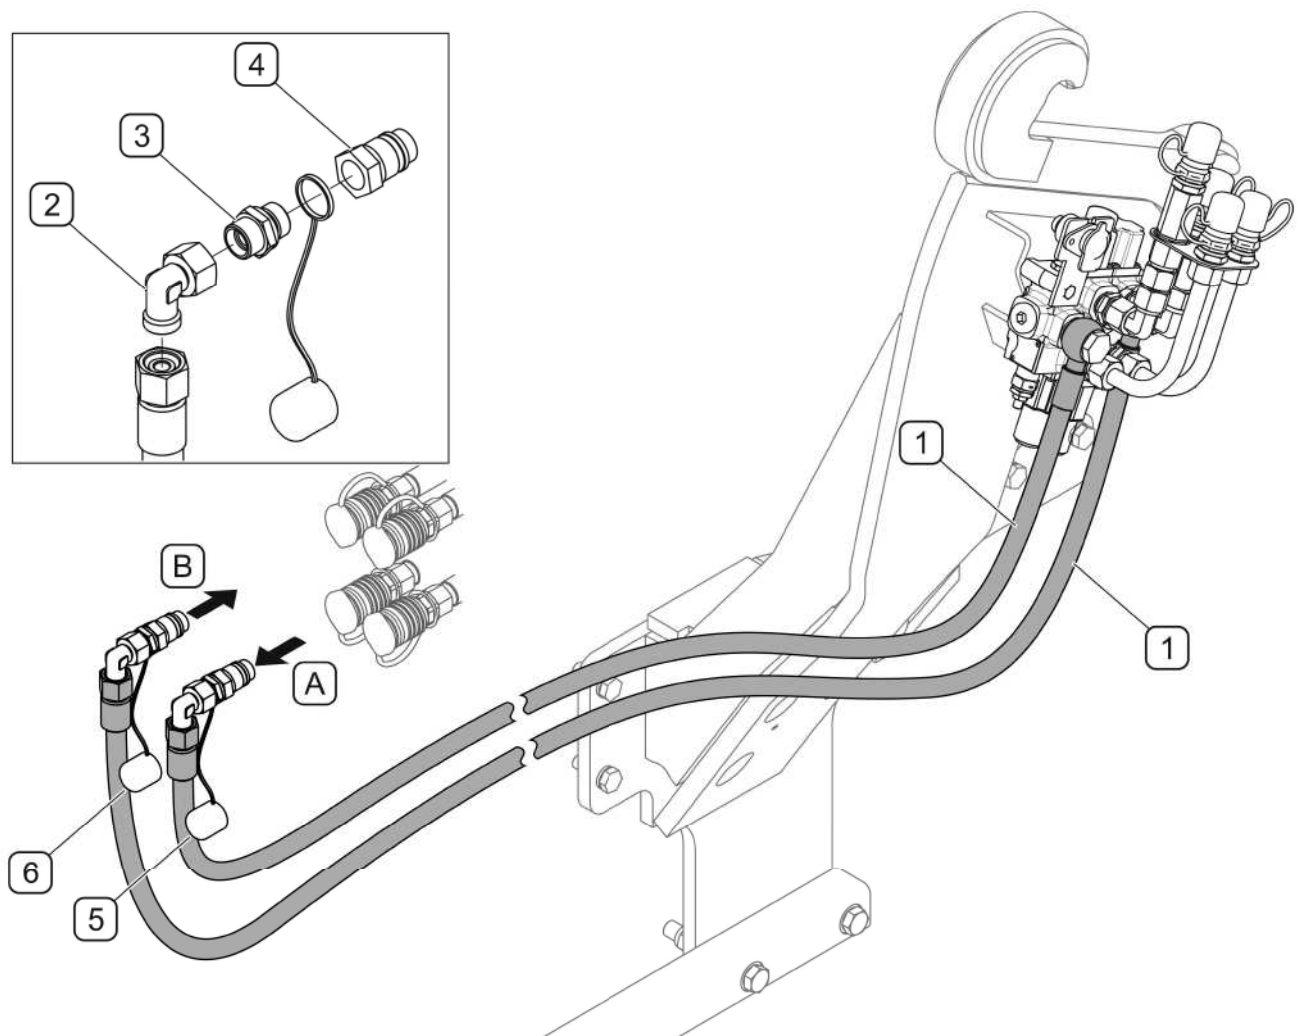

FIG. 4.10A Connect the selective control valve to the KIOTI DK451C and KOITI DK551C tractor hydraulic system
(1) - hydraulic lines 161N-01020100, (2) - Adjustable elbow EW15LOMDCF;
(3) - GE15LREDOMDCF connector body; (4) - quick plug NV 12 GAS M; (5) - black cap TF 12N; (6) - red cap TF 12R
In the KIOTI DK451C and DK551C tractors connect the selective control valve (FIG. 4.10A) using flexible lines (1) with the rear pair of tractor hydraulic quick couplers supplied from the latched hydraulic section. Loader hydraulic system is connected to selective control valve using quickcouplers, marked with appropriate plug colours.